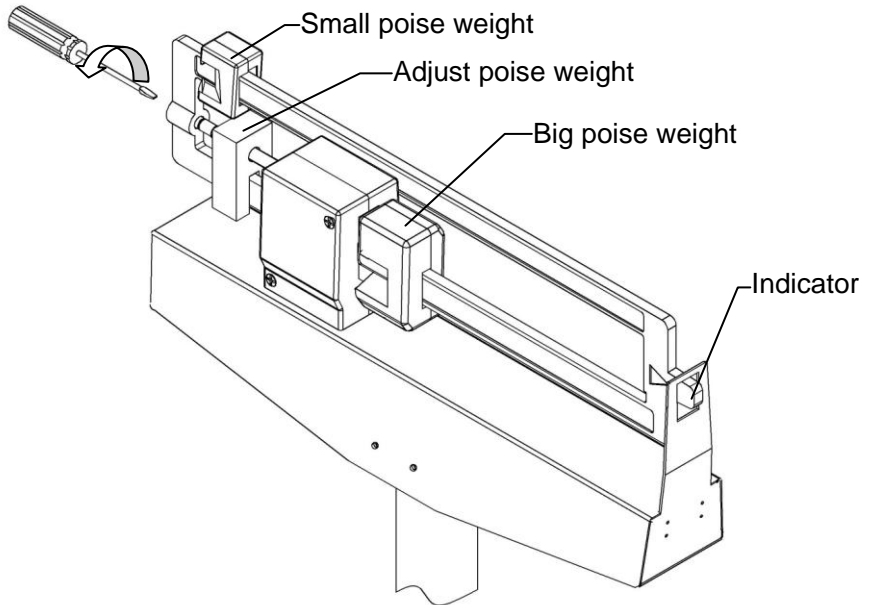

Fig.4
2. Place both poise weights on zero (see Fig 4). The beam pointer should float gently up and down and not touch the top